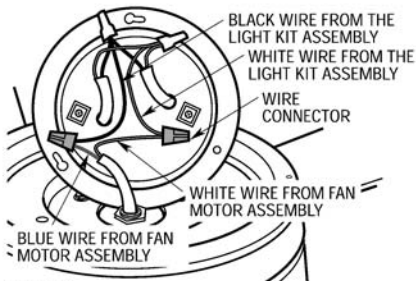

Figure 8
- 10. Connect the black wire of the light kit assembly to the blue wire of the fan motor assembly using one wire connector (supplied). Connect the white wire of the light kit assembly to the white wire of the fan motor assembly using a supplied wire connector (Figure 8).